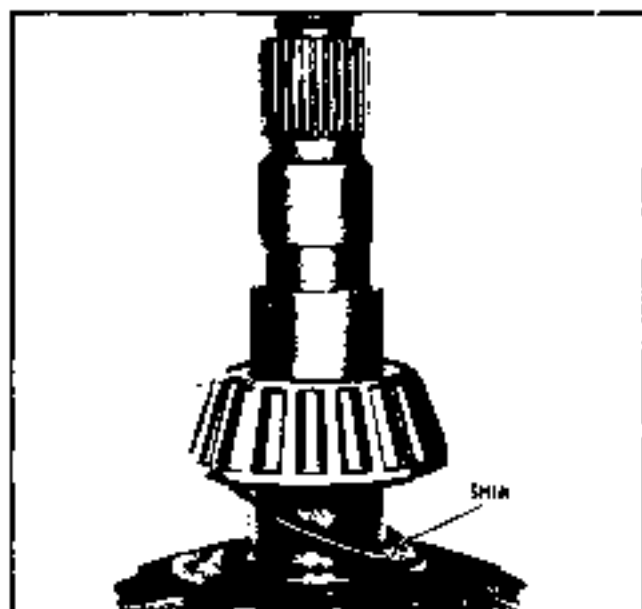

Fig. 4A-41 Pinion Shim
3. Coat O.D. of pinion oil seal with sealing compound and install in carrier, using installer J 21285-01 (Fig. 4A-9).